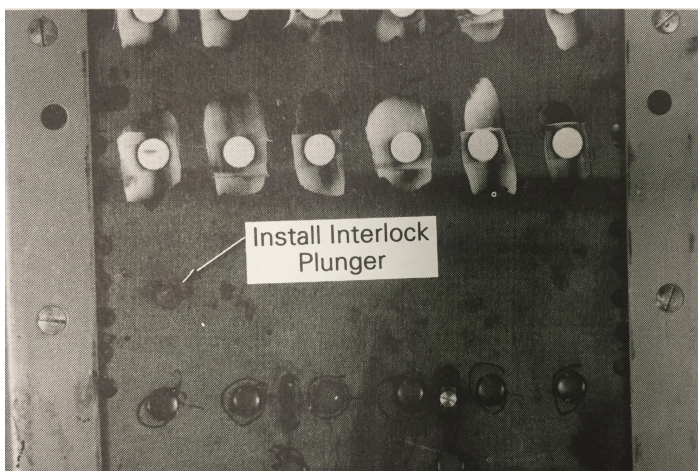

Figure 4. Interlock plunger installed in the breaker.
3. Install the interlock plunger in the hole made in step 2, as illustrated in Figure 4.